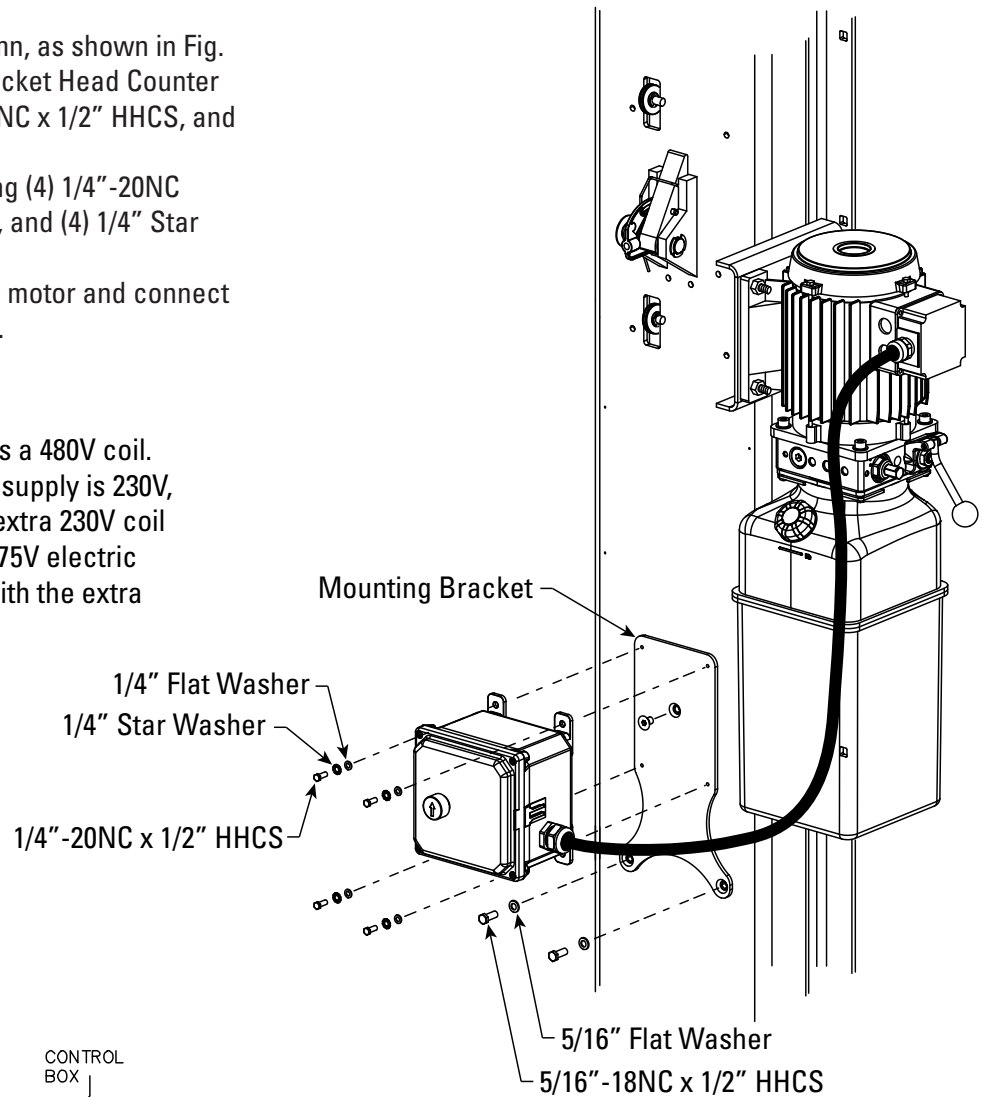

Fig. 22a
- A) Attach Mounting Bracket on column, as shown in Fig. 22a, using (1) 5/16" -18NC x 1/2" Socket Head Counter Sunk Machine Screw, (2) 5/16" -18NC x 1/2" HHCS, and (2) 5/16" Flat Washers.
- B) Attach Control Box to Bracket using (4) 1/4" -20NC x 1/2" HHCS, (4) 1/4" Flat Washers, and (4) 1/4" Star Washers.